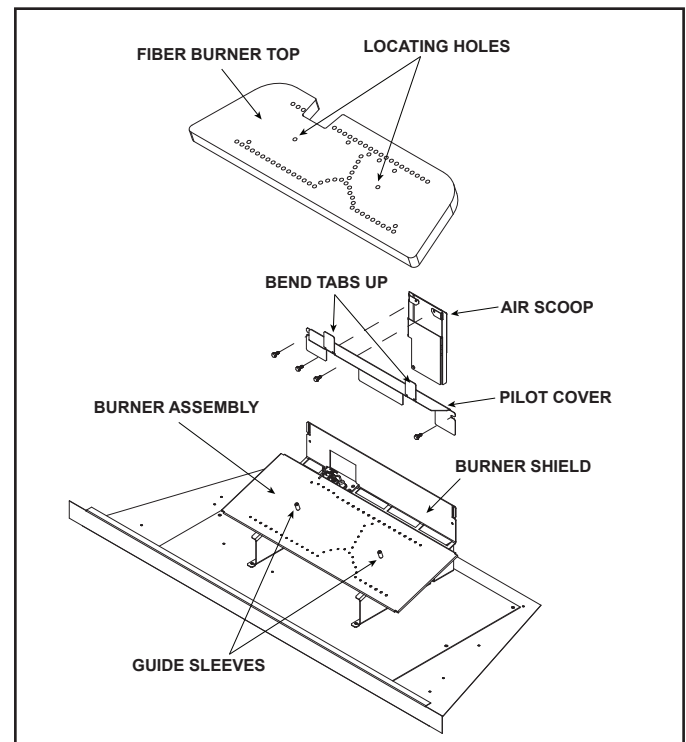

Figure 11.2
1. Bend the two tabs upward as shown in Figure 11.2